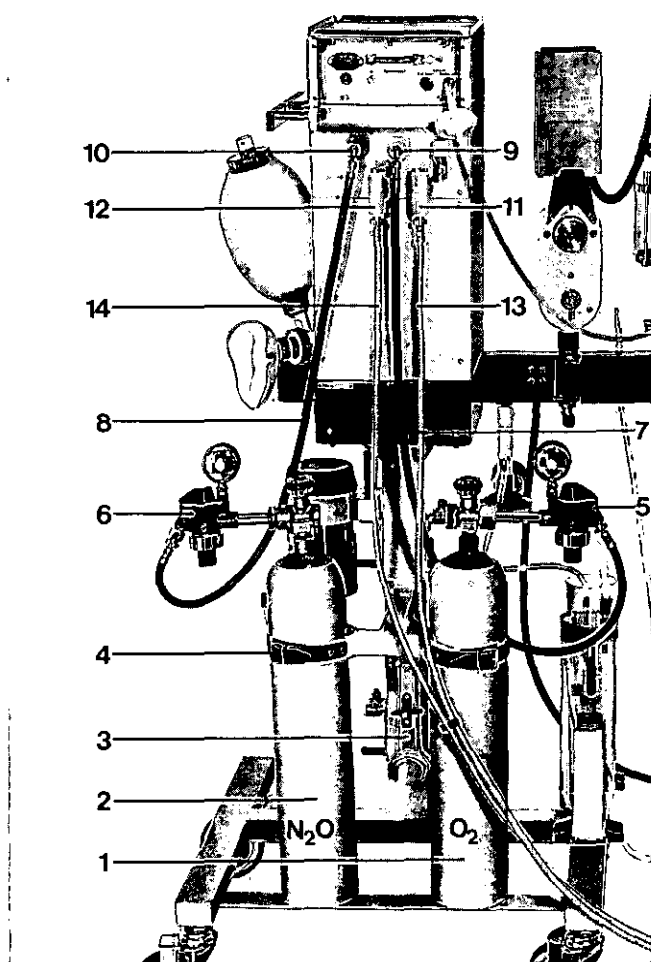
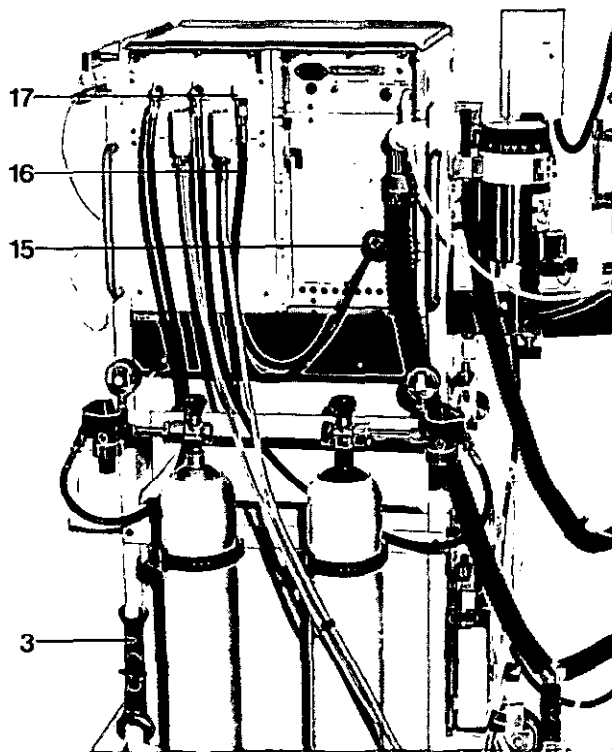

Fig. 4 Sulla 808: Back view, with small cylinders
Fig. 6 Sulla 808 V: Back view, with small cylinders
- Connection of 3 L cylinders (for Sullia 808, see Fig. 4; for Sullia 808 V, see Fig. 6).
- CS¹⁾-connection (for Sullia 808, see Figs. 4 and 5; for Sullia 808 V, see Figs. 6 and 7).
(Sullia 808 V, Figs. 6 and 7)
Operation with O₂ (Fig. 6):